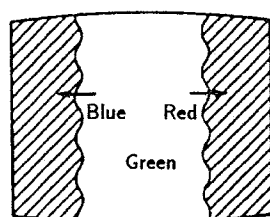

Fig. 5
4. Move the deflection yoke backward, and adjust with the purity control so that green is in the center and red and blue are at the sides evenly. (Fig.5)